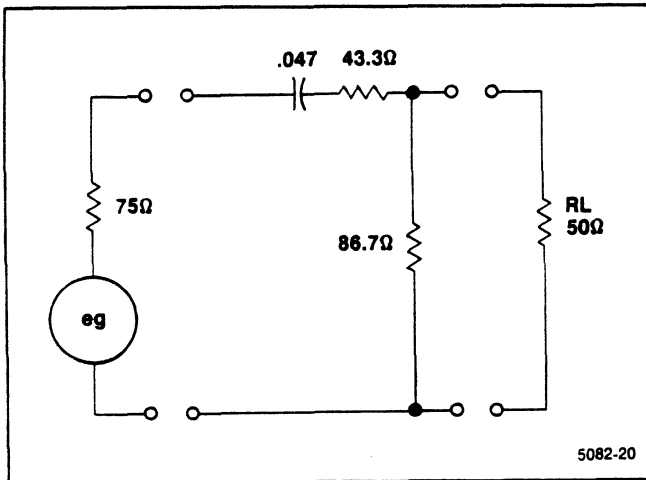

Figure 6-1. Circuit of a 75 to 50 Ω matching pad (ac coupled).
**Connecting to a 75 Ω Source** — Signals from a 75 Ω source, at the lower frequencies (1 MHz to 1 GHz), can be applied directly to the 75 Ω INPUT if Option 07 is installed or to the RF INPUT by using a 75 Ω-to-50 Ω minimum loss attenuator (refer to the Tektronix catalog or your local field office or representative for ordering information). A circuit diagram of a suitable matching pad for this purpose is shown in Figure 6-1.